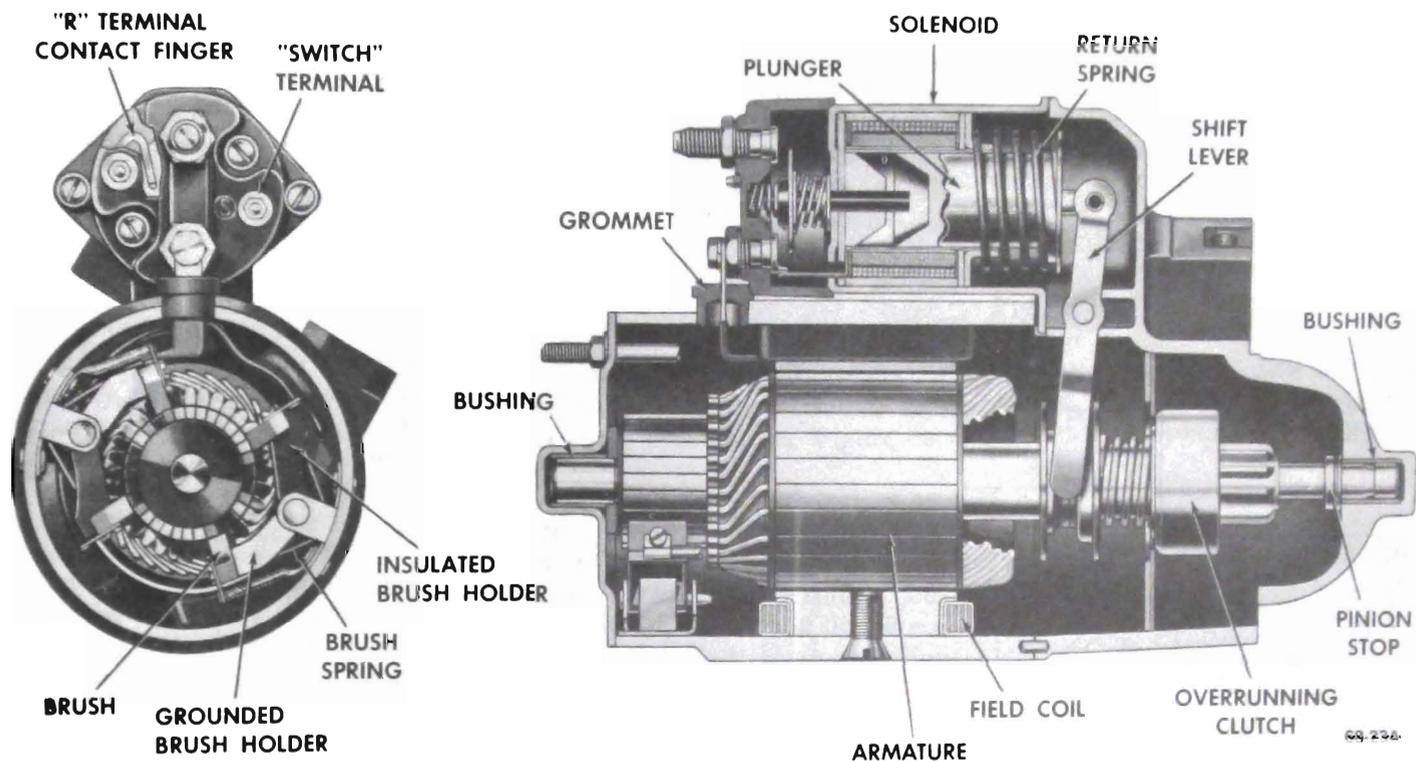

Figure 68-17--Starting Motor - 250 and 350 Engines
Closing of the ignition Start switch and the neutral start switch permits battery current to flow through the "pull-in" and "hold-in" coils of the solenoid magnetizing the solenoid. The plunger is pulled into the solenoid so that it operates the shift lever to move the drive pinion into engagement with the flywheel ring gear. The solenoid switch contacts then close *after* the drive pinion is partially engaged with the ring gear. This prevents any possible gear clash. See Figure 68-17 or 18.
contacts causes the motor to crank the engine and also cuts out the "pull-in" coil of the solenoid, the magnetic pull of the "hold-in" being sufficient to hold the pinion in mesh after the shifting has been performed. This reduces the current consumed by the solenoid while the cranking motor is operating. See Figure 68-17 or 18.
The cranking motor assembly consists of a motor, drive assembly, shift lever, and solenoid switch. See Figure 68-17 or 18.
The armature shaft is supported at both ends in graphite bronze bushings pressed into the commutator end frame and the drive housing. Neither of these bearings require lubrication except during assembly. See Figure 68-17 or 18.
which serves as a cushion in case the pinion and gear teeth butt instead of meshing. The helical splines assist in obtaining proper pinion engagement. The drive pinion is pulled out of engagement, after engine starts, by action of the shift lever return spring. The shift lever is connected to the solenoid switch plunger by a roll pin. See Figure 68-17 or 18.
contact of the disc with two stationary contacts. The other spring pushes the disc away from the stationary contacts to break the circuit when the solenoid is demagnetized after the engine starts. One stationary contact is connected to the battery positive cable and the other is connected to the motor windings through a connector or bus bar. See Figure 68-17 or 18.
4. Remove two screws holding solenoid to drive housing and remove solenoid. Remove small nut and insulating washer from the solenoid "S" terminal. Remove large nut and insulating washer from the solenoid motor terminal. See Figure 68-17 or 18. Then, remove two screws that attach switch cover to solenoid and remove cover for inspection of switch parts.